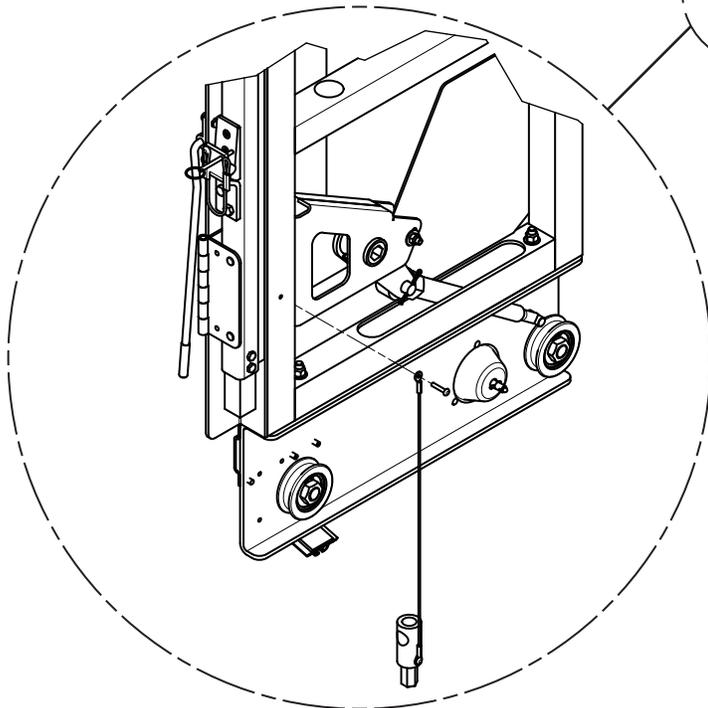

Figure 56
2) See Figure 56. Rivet the winch handle adapter (1) to the cable box door 18" (2) with 3/16 x 7/8" rivet (3).
3) Rivet cable box door 18" (2) to the rear bow in the hole drilled in the first step using 3/16 x 7/8" rivet (3).